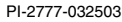
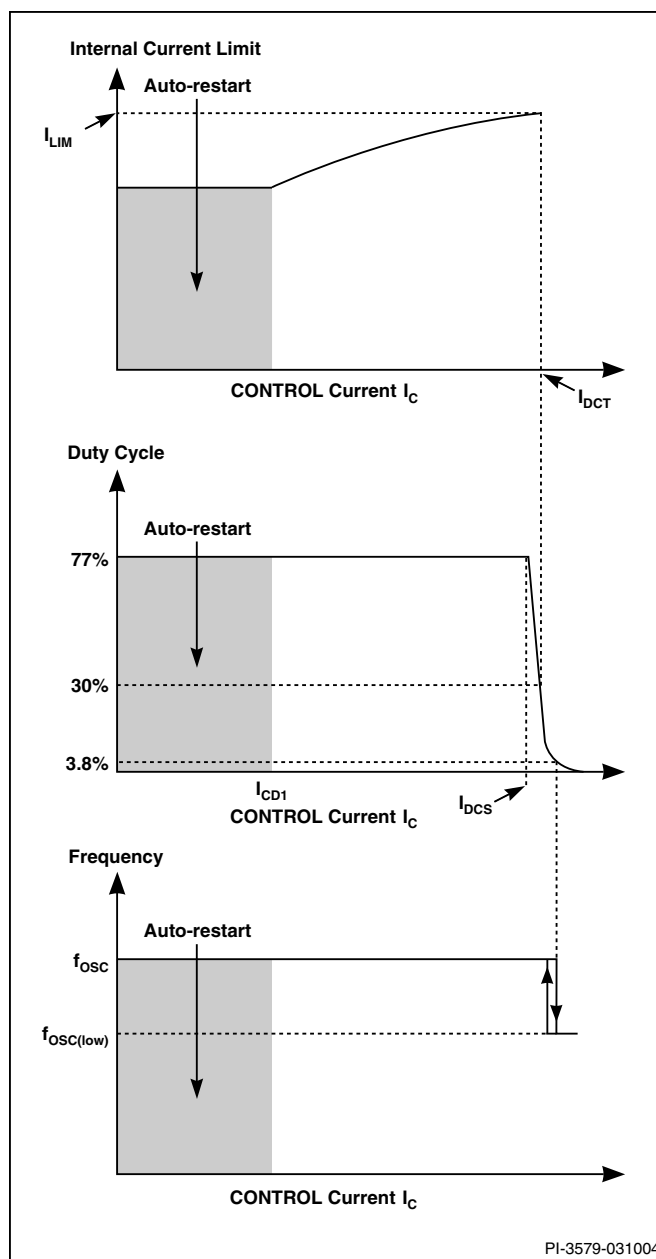
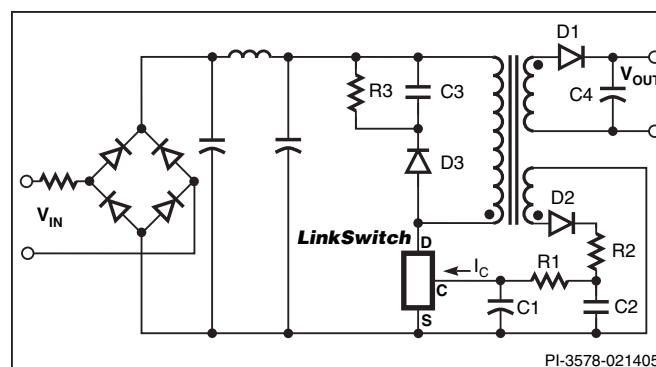
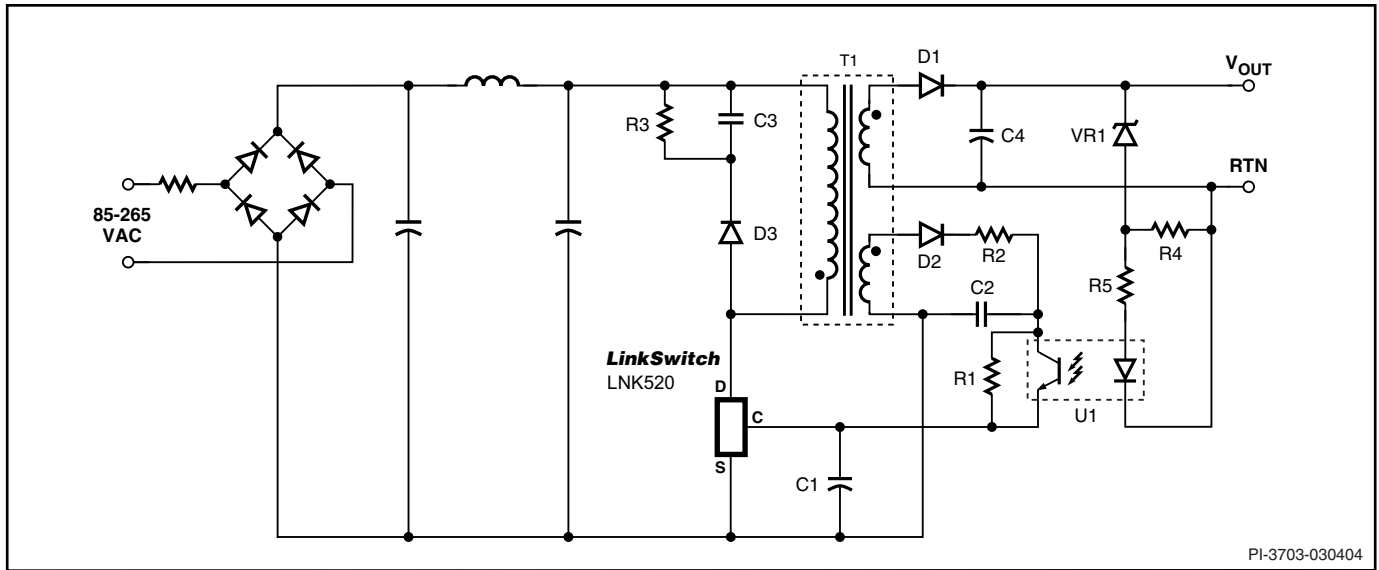

Figure 2. Block Diagram.
Figure 4. CONTROL Characteristics.
Figure 5. Power Supply Schematic outline.
Figure 6. Power Supply Schematic Outline with Optocoupler Feedback, Providing Tight CV Regulation.
The duty cycle, current limit and operating frequency relationships with CONTROL pin current are shown in Figure 4. Figure 5 shows a typical power supply schematic outline which is used below to describe the LinkSwitch operation.
During power up, as  $V_{IN}$  is first applied (Figure 5), the CONTROL pin capacitor C1 is charged through a switched high voltage current source connected internally between the DRAIN and CONTROL pins (see Figure 2). When the CONTROL pin voltage reaches approximately 5.6 V relative to the SOURCE pin, the high voltage internal control current source is turned off, the internal control circuitry is activated and the high voltage internal MOSFET starts to switch. At this point, the charge stored on C1 is used to supply the internal consumption of the chip.
As the output voltage, and therefore the reflected voltage across the transformer bias winding ramp up, the feedback CONTROL current  $I_C$  flowing through R1 increases. As shown in Figure 4, the internal current limit increases with  $I_C$  and reaches  $I_{LIM}$  when  $I_C$  is equal to  $I_{DCT}$ . The internal current limit vs.  $I_C$  characteristic is designed to provide an approximately constant power supply output current as the power supply output voltage rises.
When  $I_C$  exceeds  $I_{DCS}$ , typically 2 mA (Figure 4), the maximum duty cycle is reduced. At a value of  $I_C$  that depends on power supply input voltage, the duty cycle control limits LinkSwitch peak current below the internal current limit value. At this point the power supply transitions from CC to CV operation. With minimum input voltage in a typical universal input design, this transition occurs at approximately 30% duty cycle. Resistor R1 (Figure 5) is therefore initially selected to conduct a value of  $I_C$  approximately equal to  $I_{DCT}$  when  $V_{OUT}$  is at the desired value at the minimum power supply input voltage. The final choice of R1 is made when the rest of the circuit design is complete. When the duty cycle drops below approximately 4%, the frequency is reduced, which reduces energy consumption under light load conditions.
Figure 6 shows a typical power supply schematic outline using LinkSwitch with optocoupler feedback to improve output voltage regulation. On the primary side, the schematic only differs from Figure 5 by the addition of optocoupler U1 transistor in parallel to R1.
When the power supply operates in the constant current (CC) region, for example at start up and when charging a battery, the output voltage is below the voltage feedback threshold defined by U1 and VR1 and the optocoupler is fully off. In this region, the circuit behaves exactly as previously described with reference to Figure 5 where the voltage across C2 and therefore the current flowing through R1 increases with increasing output voltage and the LinkSwitch internal current limit is adjusted to provide an approximate CC output characteristic.
When the output reaches the voltage feedback threshold set by U1 and VR1, the optocoupler turns on. Any further increase in the power supply output voltage results in the U1 transistor current increasing. The resulting increase in the LinkSwitch CONTROL current reduces the duty cycle according to Figure 4 and therefore, maintains the output voltage regulation.
At very light or no-load, typically less than 2 mA of output current, the output voltage rises due to leakage inductance peak charging of the secondary. This voltage rise can be reduced with a small preload with little change to no-load power consumption. The output voltage load variation can be improved across the whole load range by adding an optocoupler and secondary reference (Figure 6). The secondary reference is designed to only provide feedback above the normal peak power point voltage to maintain the correct constant current characteristic.